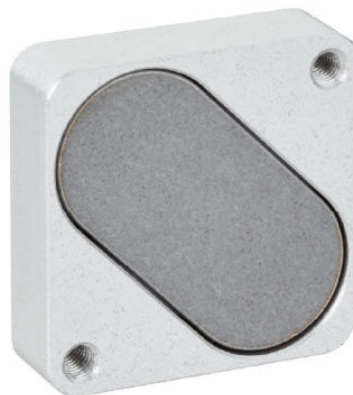

Figure 9: Mounting side for mounting bracket
1. Screw the sensor to the magnetic holder (part number: 2125439) on the side of the magnetic holder shown in figure 9 according to the hole pattern.